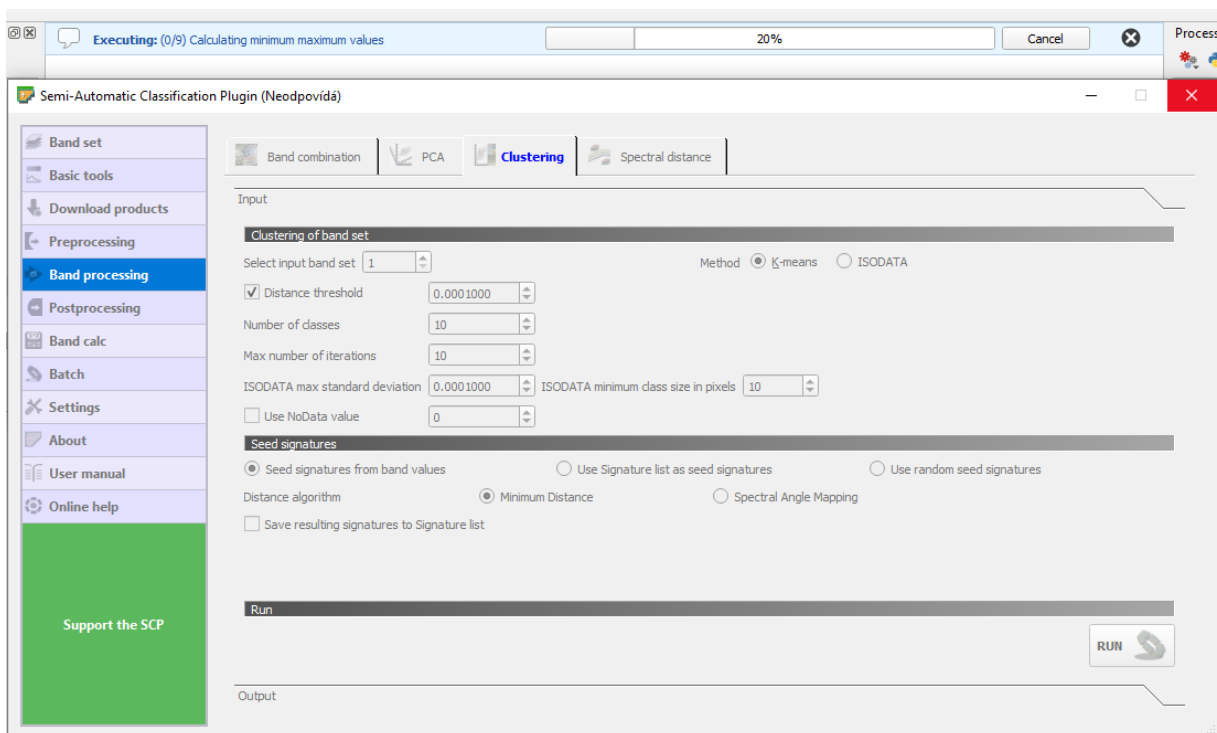

Figure 2. Options of unsupervised classification.
- 3) Choose K-means or ISODATA classifier, specify the numbers of classes and iterations. Run the tool (Figure 2). New raster file will be created. *Note: It takes some to finish the clustering, it's better to start with one band only and the limited number of iterations.*